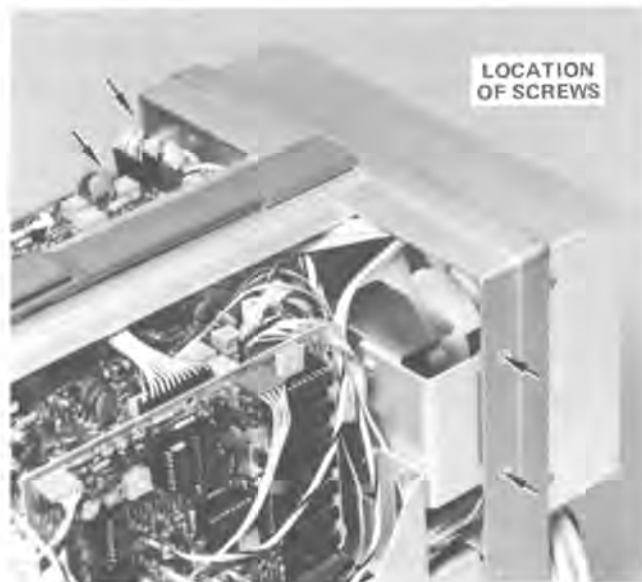

Figure 4-5. Location of screws holding Low-Voltage sub-chassis.
1. Remove the four screws holding the Regulator subassembly to the main chassis (see Fig. 4-5).